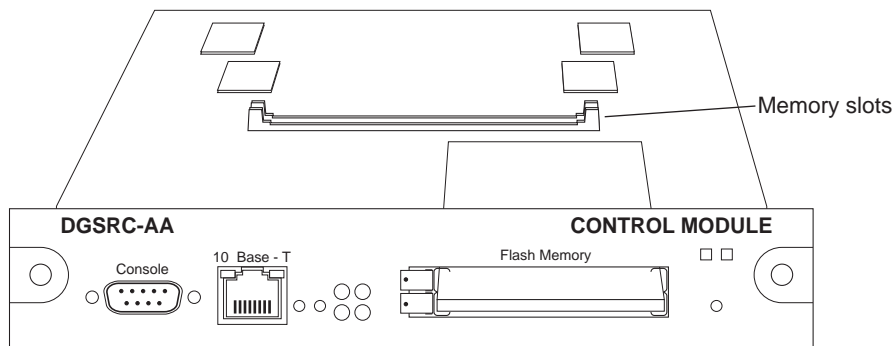

Figure 10: Location of DIMM slots
4. Remove the DIMMS from the memory slots. Figure 10 shows the locations of the DIMM slots.